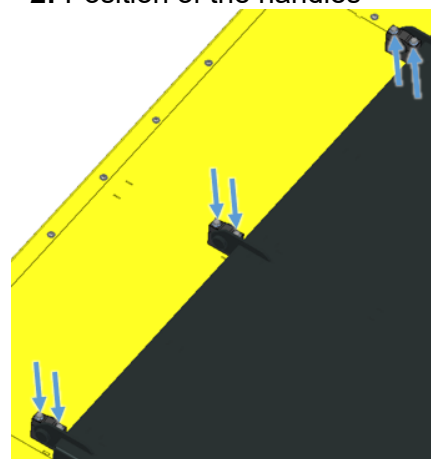

Figure 7
- The bolts of the three lid hinges are unscrewed (see Figure 7).